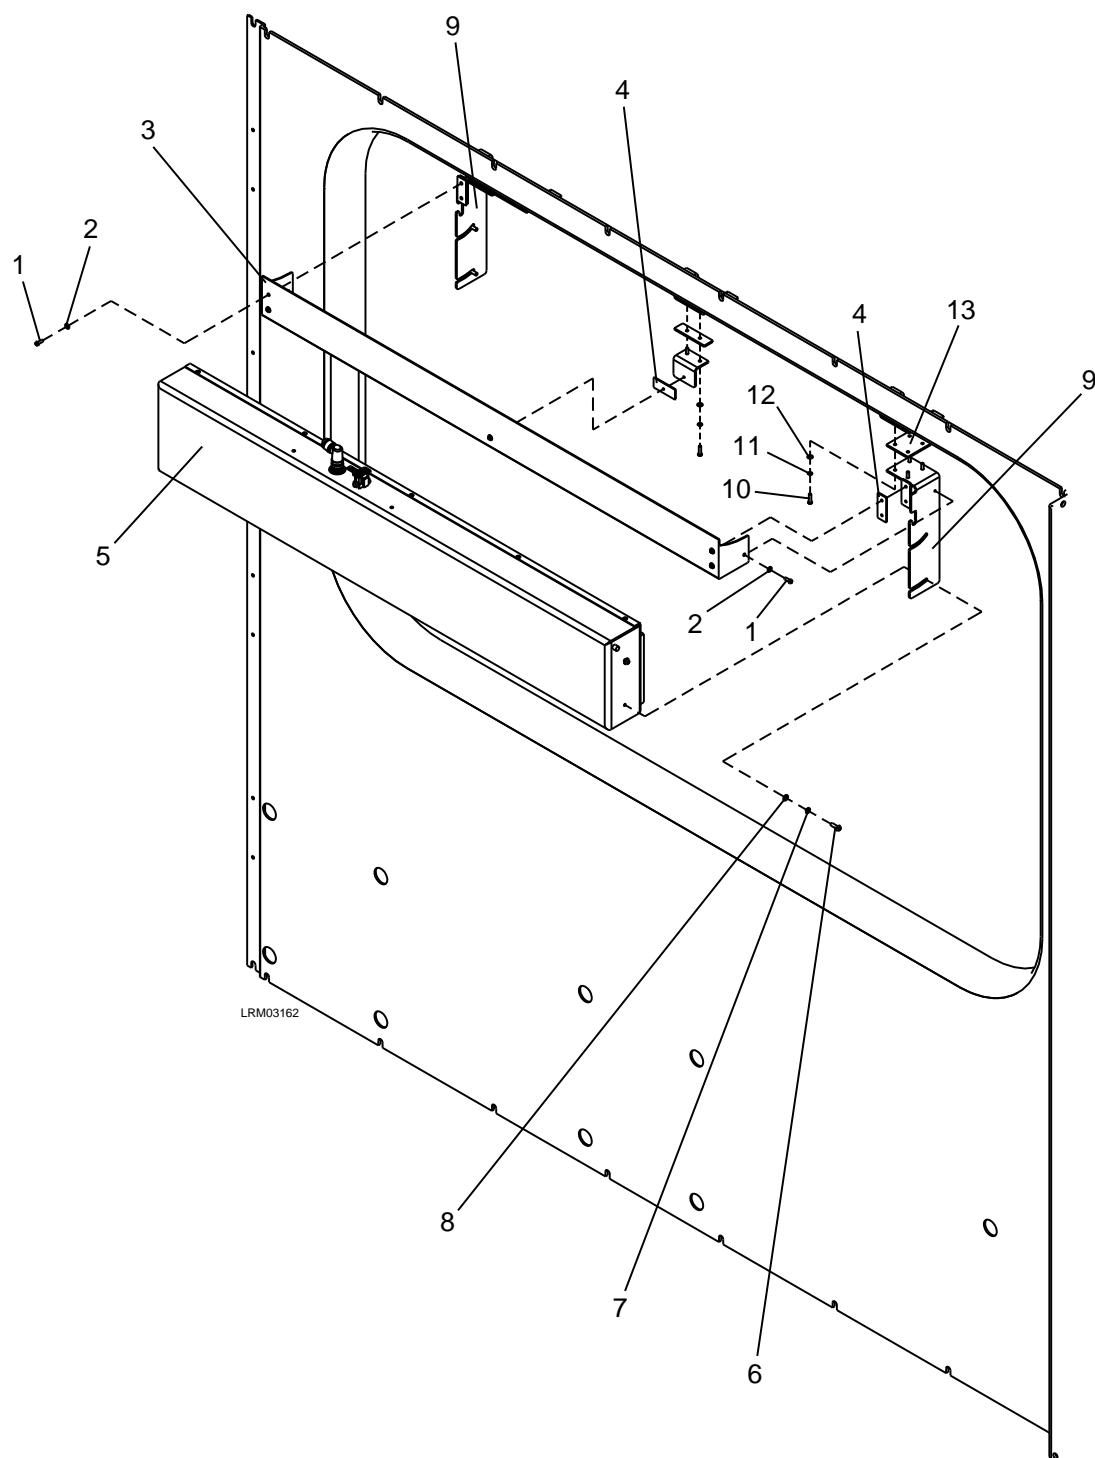

Figure 7-89: Side Destination Sign
1. Remove the seven M4 x 12 screws (1) and M4 plain washers (2) from the cover (3). See Figure 7-89.
2. Remove the cover (3) and the three packing (4).
3. Disconnect the electrical connectors to the Side Destination Sign (5).
4. Remove the four M5 x 16 screws (6), M5 lock washers (7) and M5 plain washers (8).
5. Rotate the Side Destination Sign (5) and remove from the brackets (9).